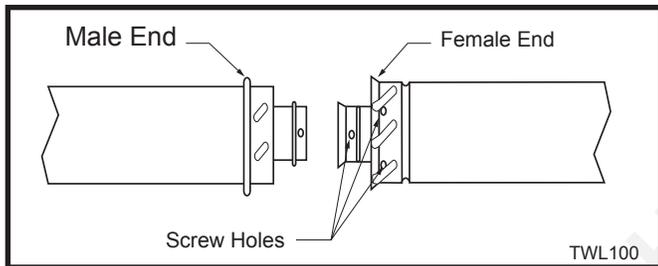

Fig. 18 Twist-lock pipe joints.
To join twist lock pipes together, simply align the beads of the male end with the grooves of the female end, twisting the pipe until the flange on the female end contacts external flange on the male end. It is recommended that you secure the joints with three (3) sheet metal screws, however, this is not mandatory with twist lock pipe. (Fig. 18)